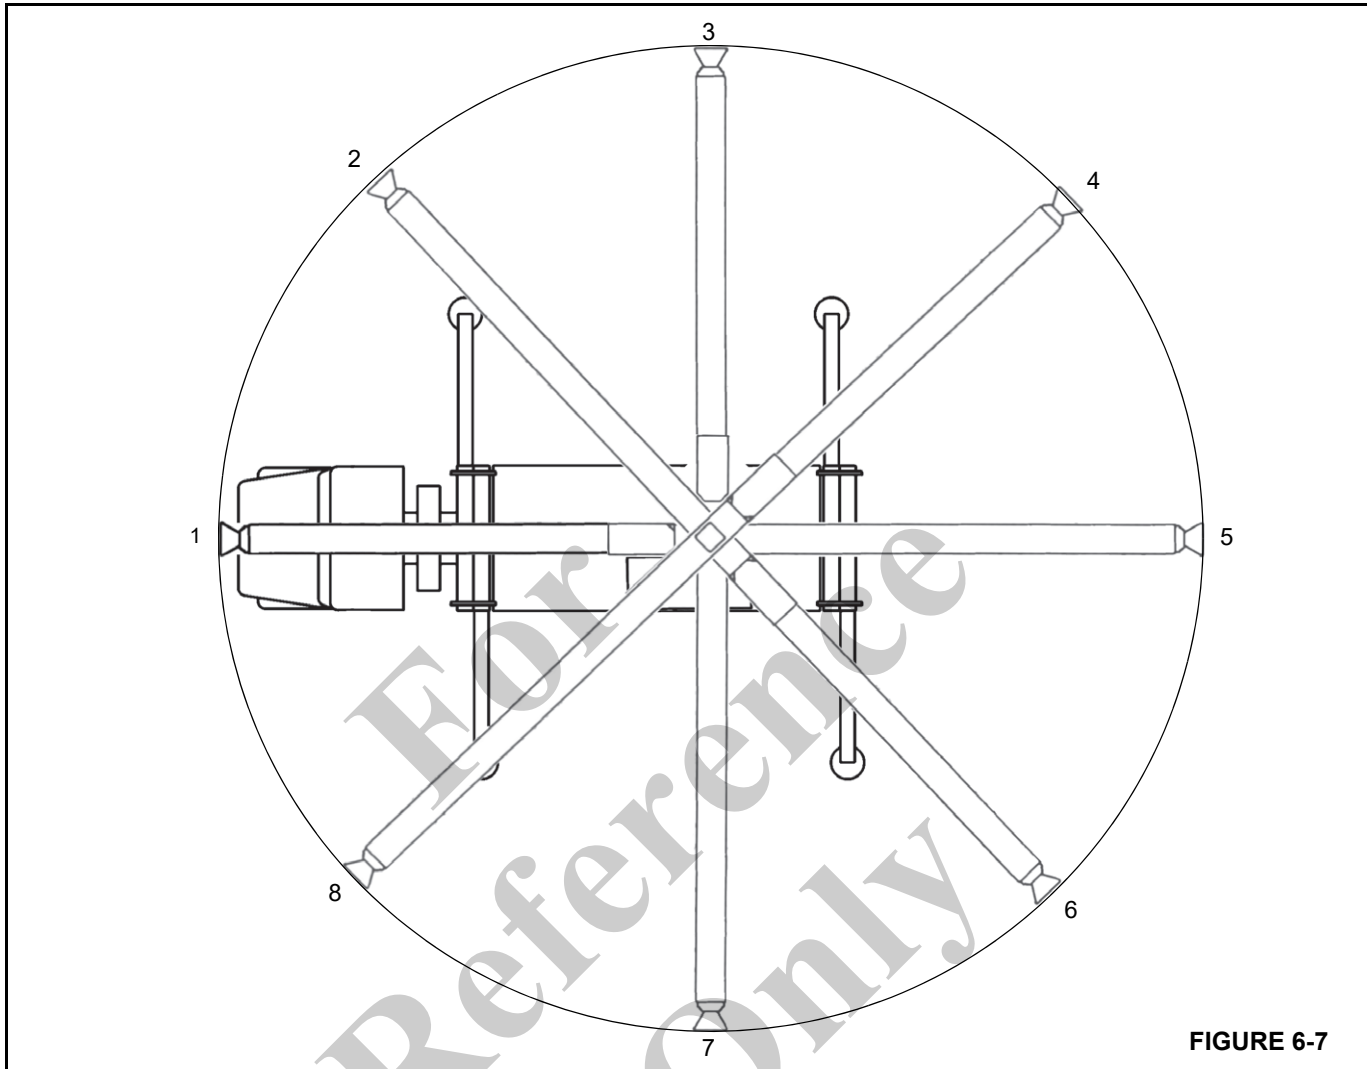

FIGURE 6-7
10. If the average is less than 2 mm (0.090 in), repeat the measurement at every 45° around the total working area of the crane (Figure 6-7).